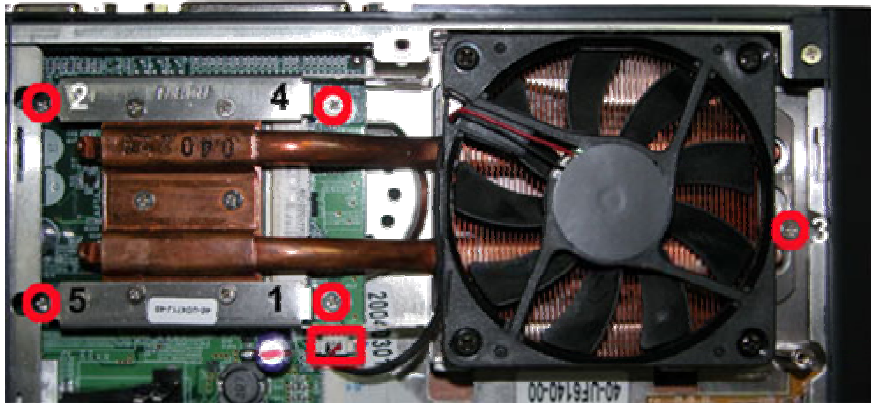

Fig. 6 CPU Heat Sink
1. Unscrew screws on CPU Heat Sink in descending order (5→4→3→2→1) as shown in Fig. 6